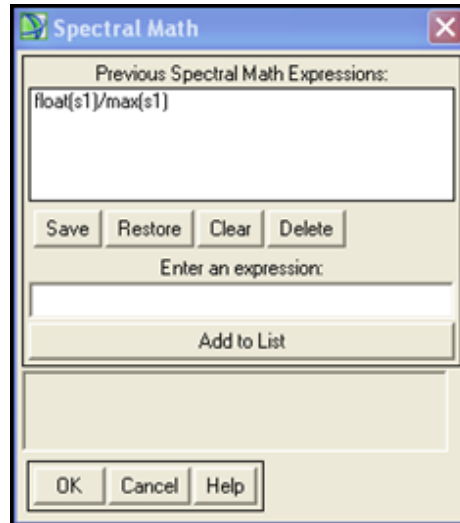

Figure 6.1c. Spectral Math input window
- Now we create a Correction Spectrum from the spectrum of the lamp. In the main ENVI menu select Basic Tools > Spectral Math. Click the Restore button and then click on the file correction.exp. This file has been installed in the folder named hook, which is the first folder opened by the Restore button. The expression $\text{float}(s1)/\text{max}(s1)$ opens in the Expressions list of the Spectral Math window (Figure 6.1c). Click on the expression and click OK.